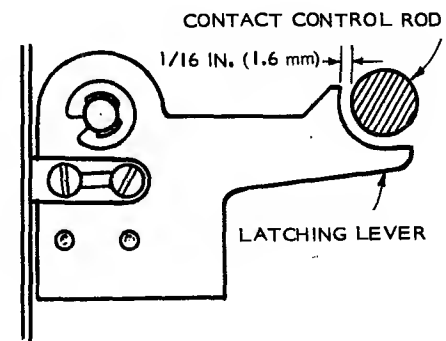

FIGURE 20. LATCH MECHANISM ON MECHANICALLY-HELD TRANSFER SWITCH
2. Adjust the bracket for 1/16-inch (1.6 mm) clearance between the contact control rod and the latching lever when the main coil armature is fully seated (Figure 20).